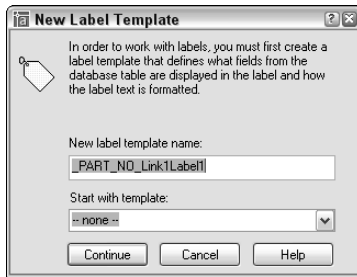

Figure 20-15: The New Label Template dialog box.
3. In the New Label Template dialog box, shown in Figure 20-15, type a template name in the New Label Template Name text box. AutoCAD suggests a default name. If you have an existing label template you would like to use as a basis for the new label template, choose it from the Start with Template drop-down list. Click Continue.